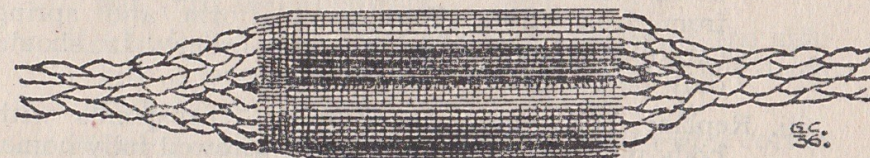
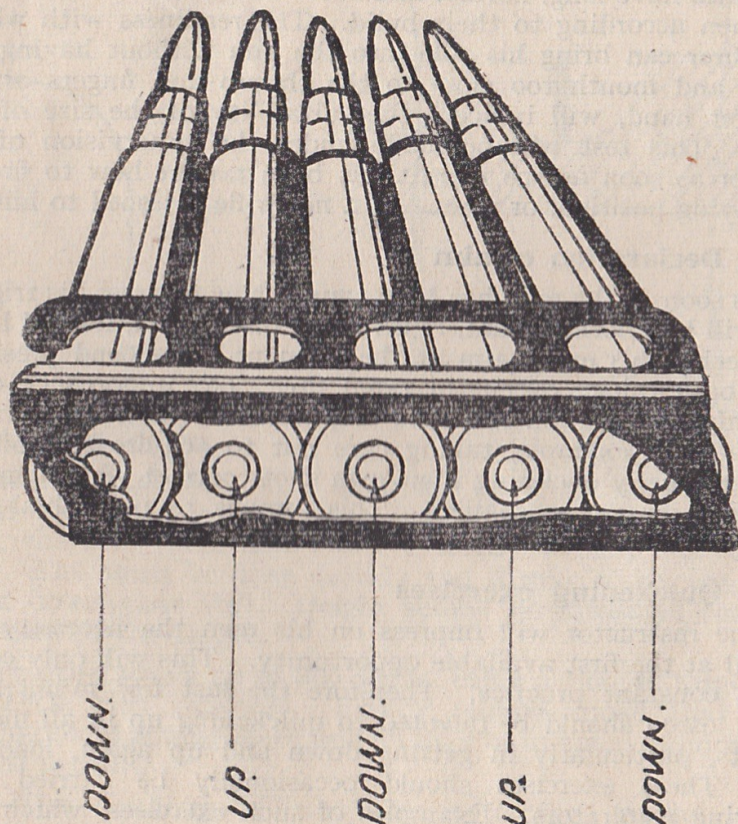

Fig. 2
Fig. 5
- v. Fitting gauze.—In war-time the gauze will be kept fitted to the pull-through. To fit it, fold it as in Fig. 2, the longer sides taking the shape of an "S." Open the loop of the pull-through nearest the weight and put one side of it in each loop of the "S." Coil each half of the gauze tightly round the cord until the two rolls thus formed meet. Remove loose strands. To make the gauze fit the bore tightly, pack it with a small piece of flannelette if necessary. The gauze will always be oiled before use.
Figs. 5, 4a, 3 at 100, 200, 300 yards respectively, and Figs. 2 at 400 and 500 yards. Aiming rests and tripods. Safety precautions (see General Notes for Instructors).
Explain how to fill chargers (see Fig. 5).
Paint one side grey with a brown figure 5 on it.
Make a small hole in the centre of the figure 5.